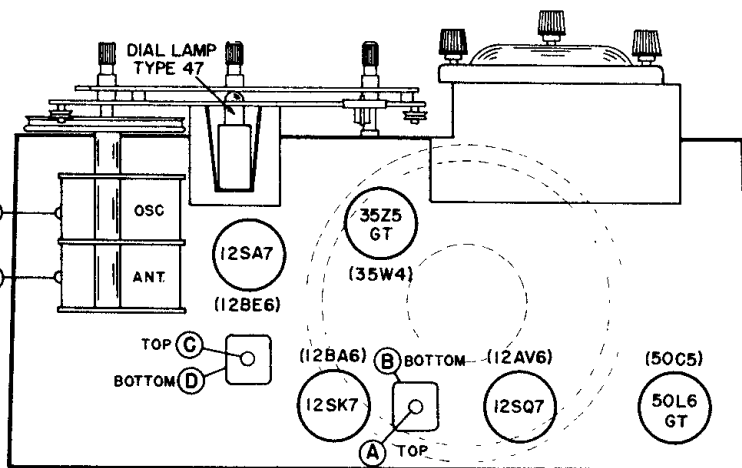

Fig. 5. Top View of Chassis Showing Location of Tubes and Alignment Adjustments
- Refer to Figs. 5 and 6 for location of alignment adjustments.